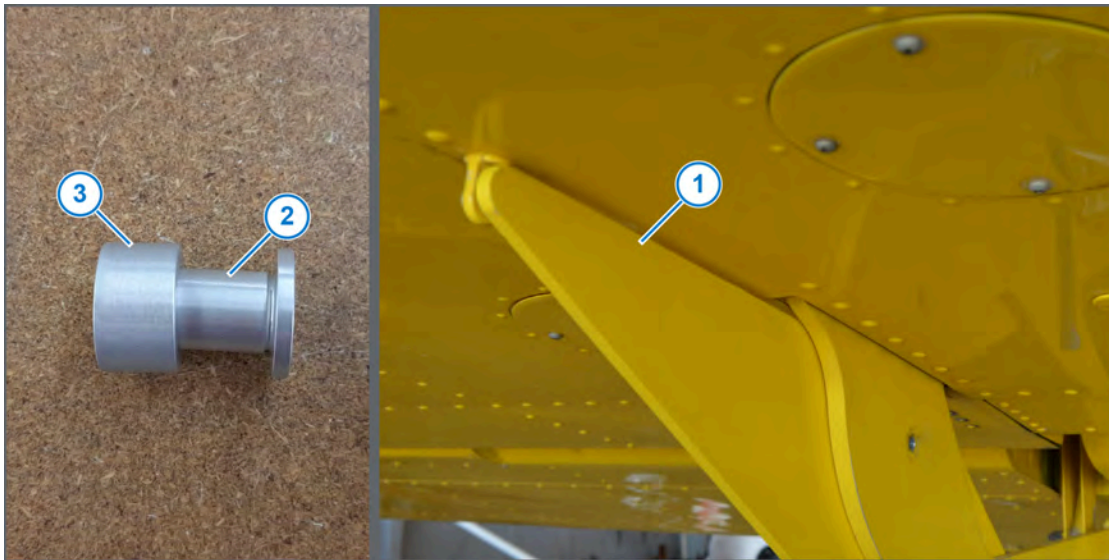

Figure 13: Installing the Bushing Kit
See Figure 13
- Remove the boom hanger (Figure 13, Item 1).
- Use a clamp to press the bushing (Figure 13, Item 2) into the hole until it is seated against its collar.
- Install the bushing sleeve (Figure 13, Item 3) over the bushing.